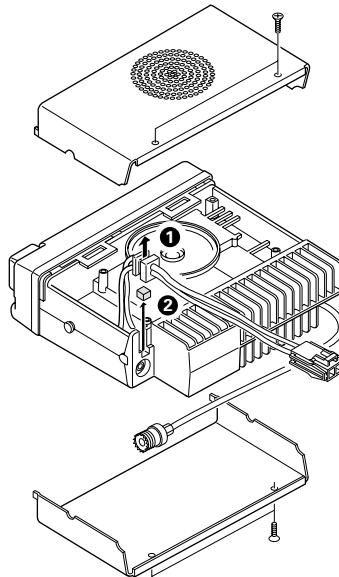

Fig. 1
1. Remove the upper and lower halves of the transceiver case, and lift the DC cord bushing (①) from the chassis.
2. Remove the pad as shown in Figure 1 (②).
3. Insert the KCT-19 cable (③) into the chassis (④).